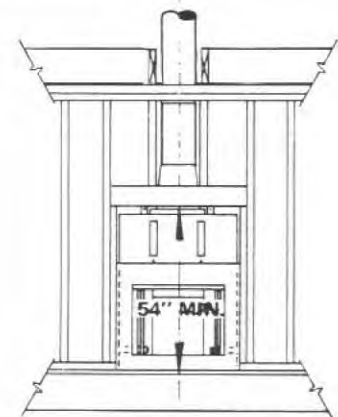

FIGURE 7
STEP 3 – BEGIN INSTALLATION If fireplace opening is framed before fireplace is positioned, allow minimum clearance of 54" from bottom of header to fireplace platform. (See Figure 7).